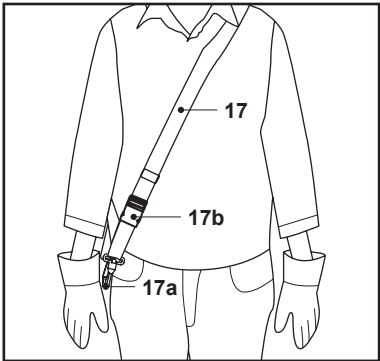

Fig. 6
- 1. Place the harness (17) so that it runs over the left shoulder, crossing the chest and back. The securing clip (17a) must be located at the right hip. The quick release (17b) must be in front (Fig. 6).